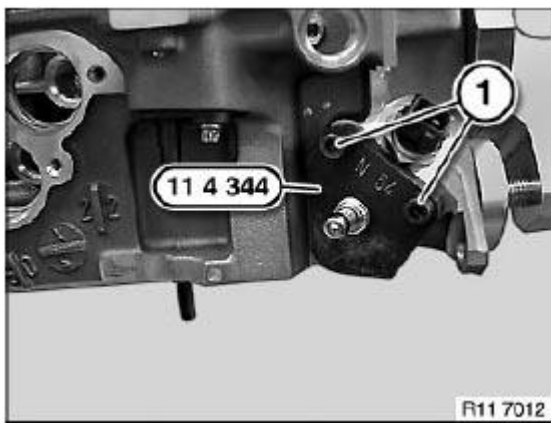

Fig. 60: Identifying Special Tool With Bolts
Secure special tool 11 4 344 with bolts (1). See **Fig. 60**.